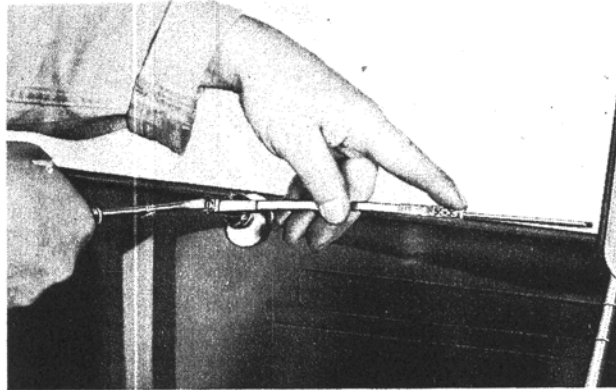

Figure 16 Holding Blade in Correct Parked Position while Tightening Slotted Head Nut
3. Remove wiper arms by taking out slotted head nuts (See Figure 16).
2. Loosen wiper arm nut several turns (See Figure 16) and loosen arm on shaft.